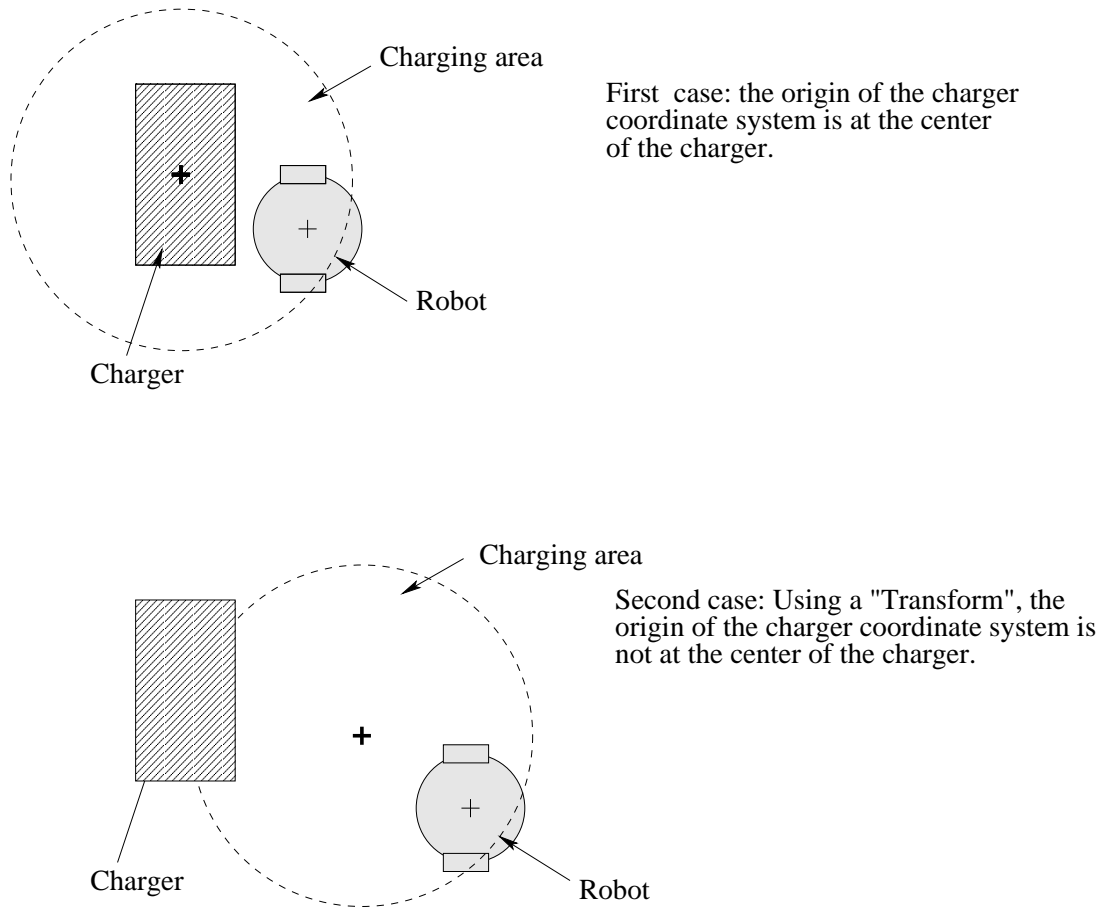

Figure 3.3: The sensitive area of a charger
- `battery`: this field should contain three values, namely the present energy of the charger (J), its maximum energy (J) and its charging speed ($W=J/s$).
- `radius`: radius of the charging area in meters. The charging area is a disk centered on the origin of the charger coordinate system. The robot can recharge itself if its origin is in the charging area (see figure 3.3).